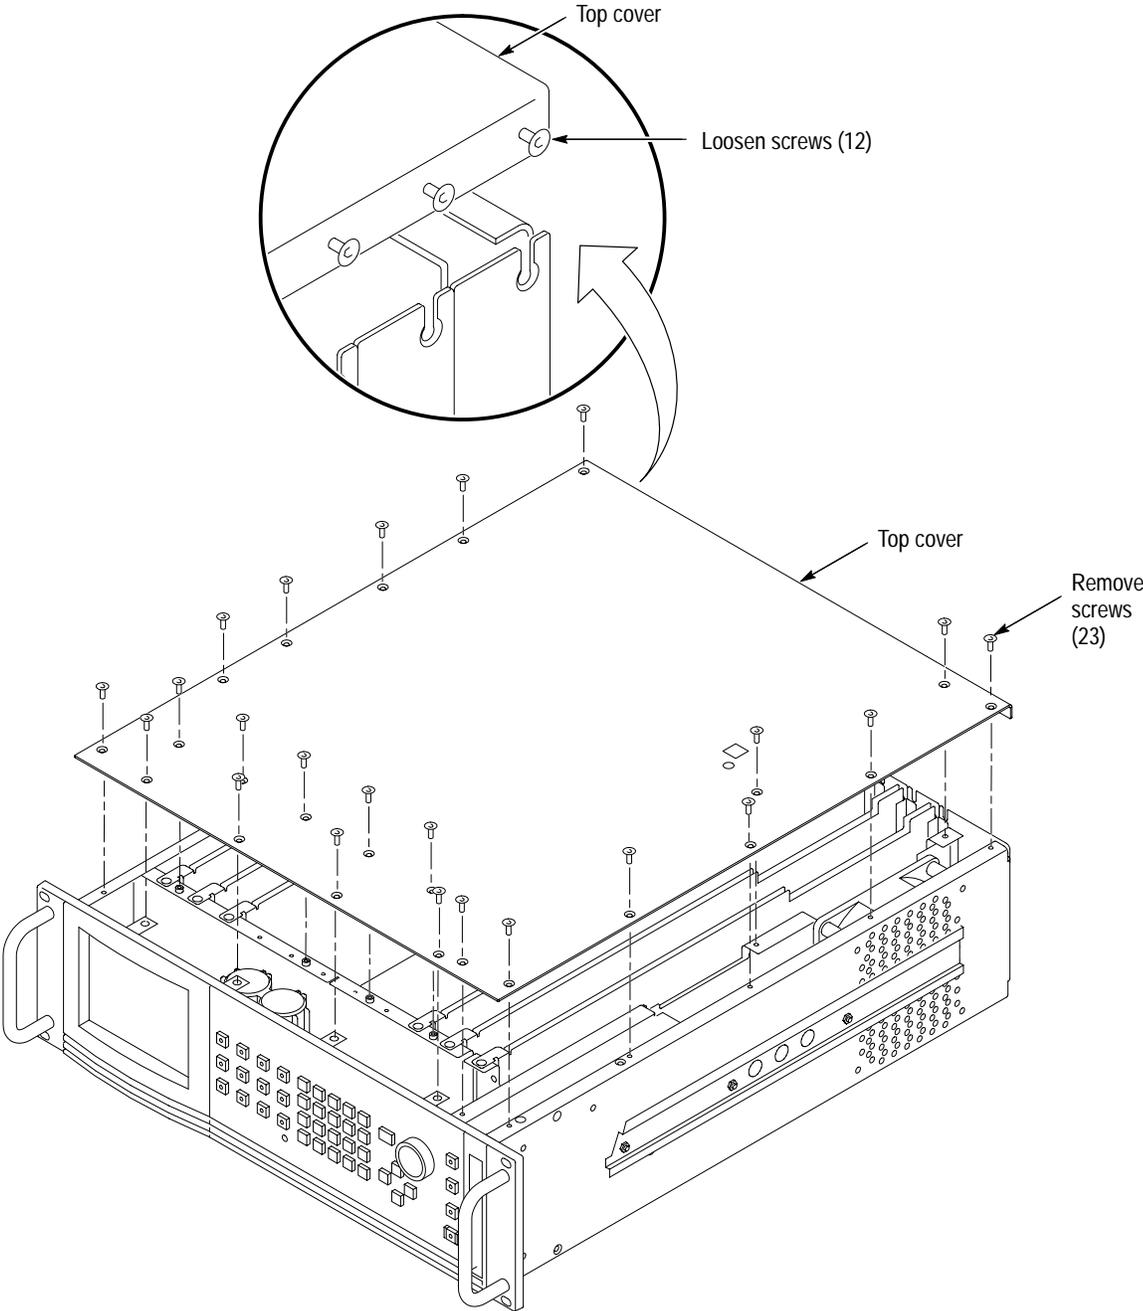

Figure C-2: Top cover removal
- 4. Refer to Figure C-2 and remove or loosen all screws to remove the top cover.
3. Remove all top-cover screws and remove the top cover. See Figure C-2 on page C-3.